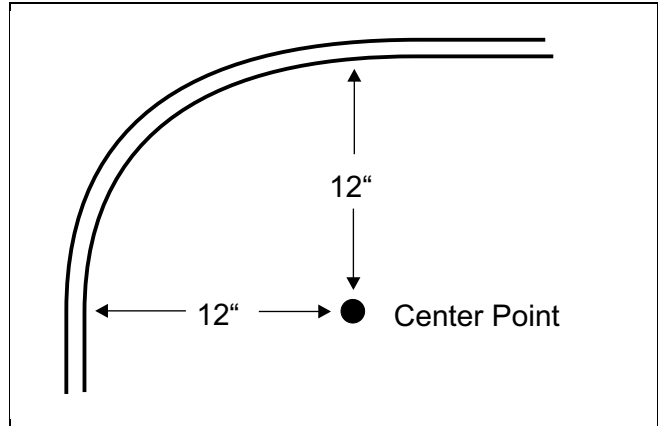

FIGURE 3 : MINIMUM SUCTION LINE FORM
- a. No attempt should be made to bend the suction line in a shorter radius than 12". See Figure 3.